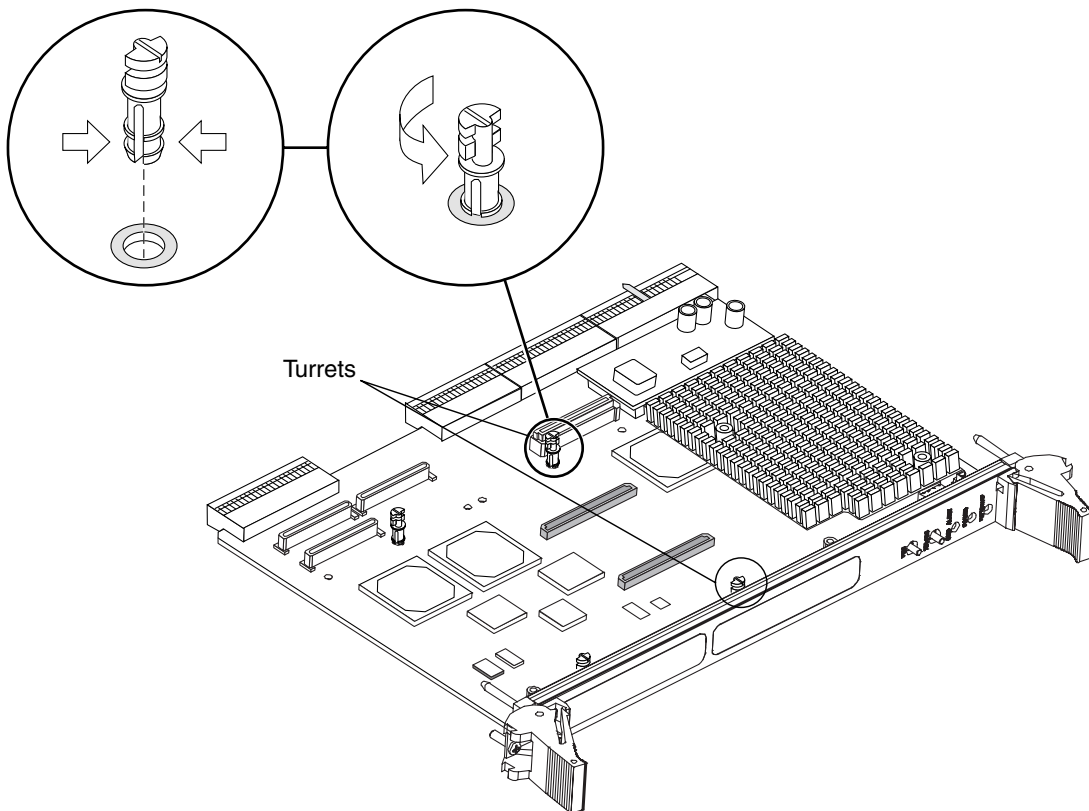

FIGURE 4 Installation of a Turret on a Typical Netra CP2000/CP2100 Board for Single-wide Memory Installation
- **Pinch the turret at the bottom and insert it into the turret mounting hole on the Netra CP2000/CP2100 board as shown in FIGURE 4.**